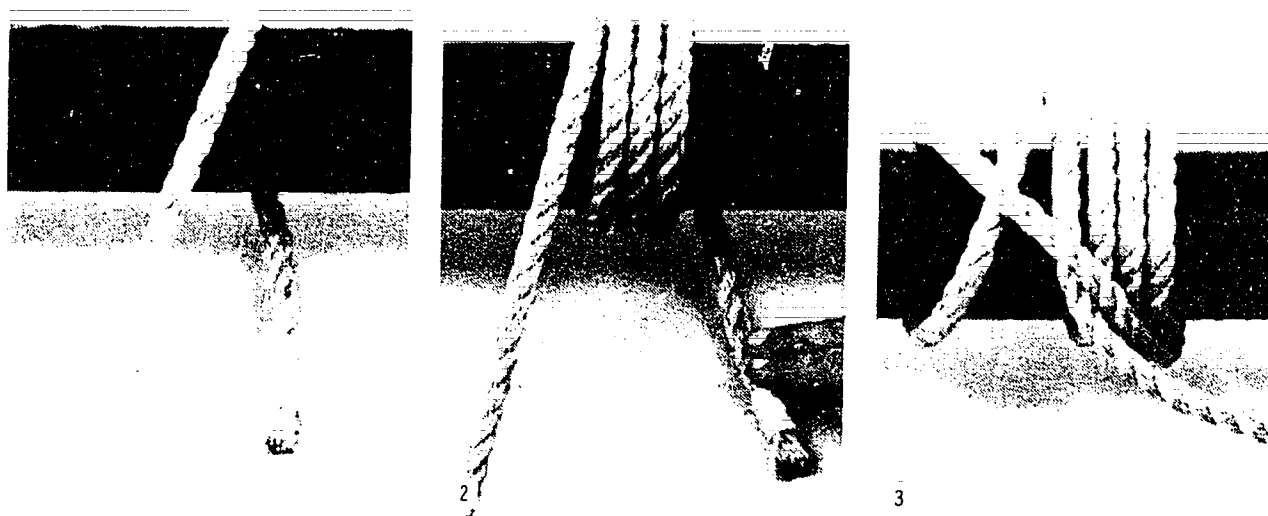

Figure 7-21. Tying a Rolling Hitch
4. The **rolling** or **Magnus hitch** is used to fasten a line to another line, cable, timber or post and it will remain tight under tension or pull. This hitch is also known as the **mooring hitch**. Figure 7-21 illustrates the steps in tying the rolling hitch.